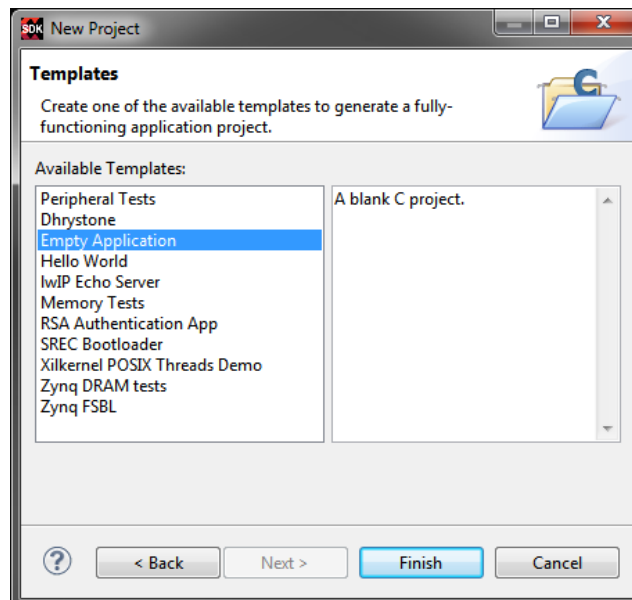

Figure 1.24: New Project Template Dialogue
- (c) At the *New Project Templates* screen, select **Empty Application**, as in Figure 1.24, and click **Finish** to create the project.